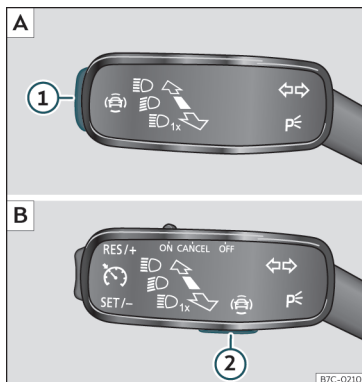

Fig. 62 On the turn signal and main beam lever: button for driver assistance systems (depending on versions).
- Press >>> **Fig. 62** ① or ② briefly to open the **Driving aids** menu.